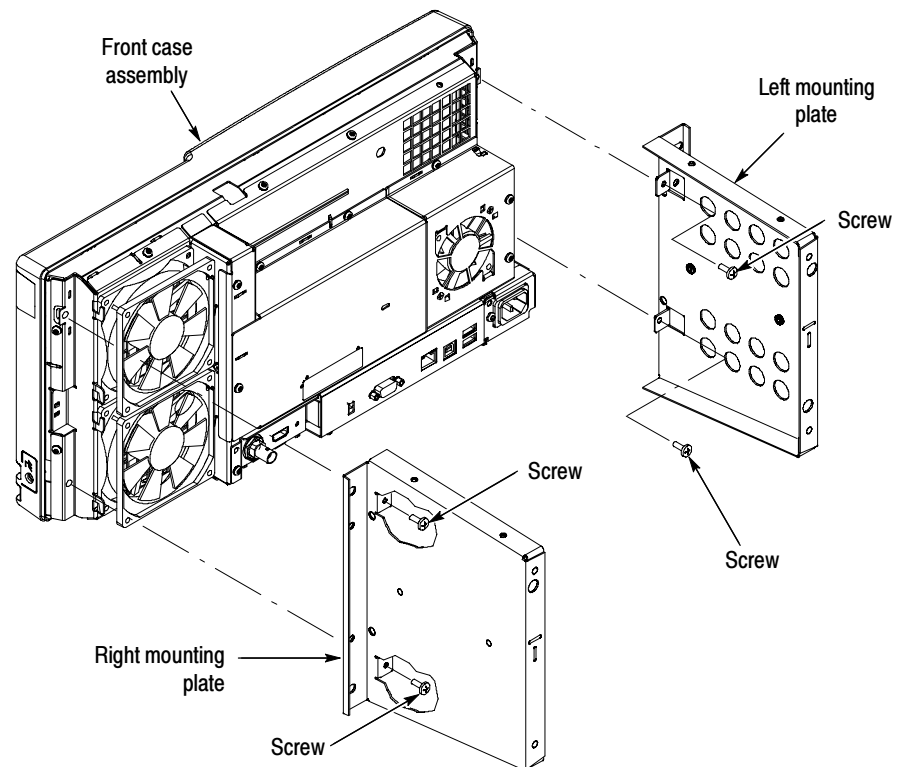

Figure 5: Installing the left and right mounting plates
1. Install the left and right mounting plates on the instrument using four 6-32 x 0.250 inch pan head T-15 TORX-drive screws tightened to 8 in-lb. See Figure 5.